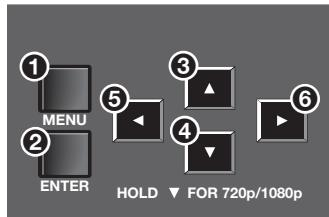

Figure 17. Menu Selection Buttons
- **Menu button** — Press the **Menu** button (see figure 17, ①) to activate or exit the on-screen menu, deselect a submenu, or cancel a pending change.
- **Enter button** — Press the **Enter** button (②) to access the on-screen menu, select submenus, or submenu items, or to accept pending changes.
- Press the ▲ (**Up**) (③) or the ▼ (**Down**) (④) arrow button to navigate submenus or submenu items.
- Press the ► (**Right**) arrow button (⑤) to access currently selected submenus or submenu items.
- Press the ◀ (**Left**) (⑥) arrow button to exit currently selected submenus or submenu items. You can also use the navigation buttons to adjust settings according to specific setting directions.